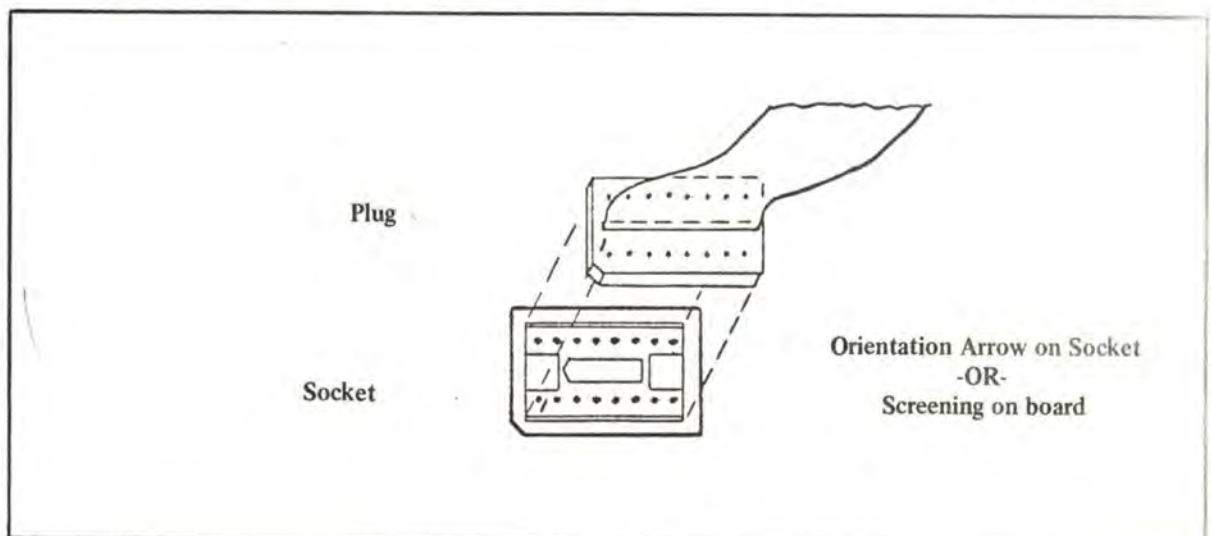

Figure 7-1. I.C. Plug Orientation
- b. Unplug 2 I.C. cables and the two-pin molex connector at the rear of the monitor pot. (see figure 7-1 when reassembling).
- b. Unplug 2 I.C. cables and the three-pin molex connector next to the power transformer. (see figure 7-1 when reassembling.)